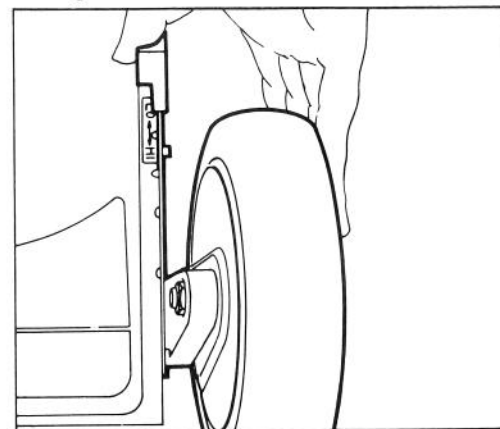

Figure 8
2. For easier adjustment, lift housing up so wheel is off ground. Squeeze adjusting lever toward wheel (Fig. 8) and move them to desired setting. Assure pin on adjusting lever engages notch in housing. Adjust all wheels to the same setting.